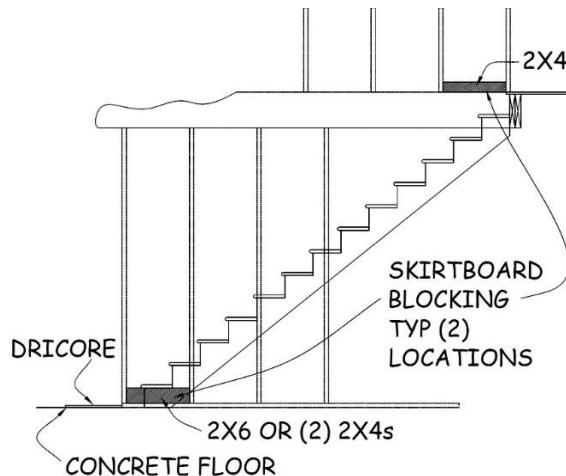

Figure 10-5. Blocking for Skirtboard.
1. At the bottom of the stairs, install a piece of 2x6 or two pieces of 2x4 blocking for the skirtboard, extending from the end of the stringer to at least 5" past that point (see Figure 10-5).